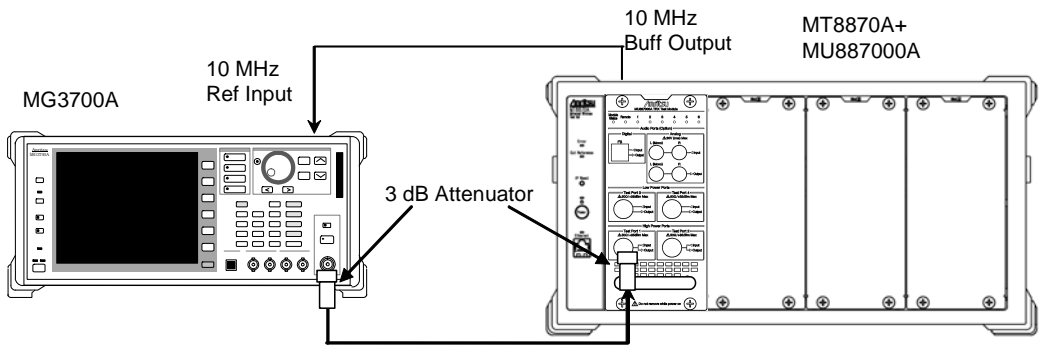

Figure 5.3.5-1 Setup for Measuring Frequency/Modulation
1. Setup the instruments as shown in Figure 5.3.5-1.